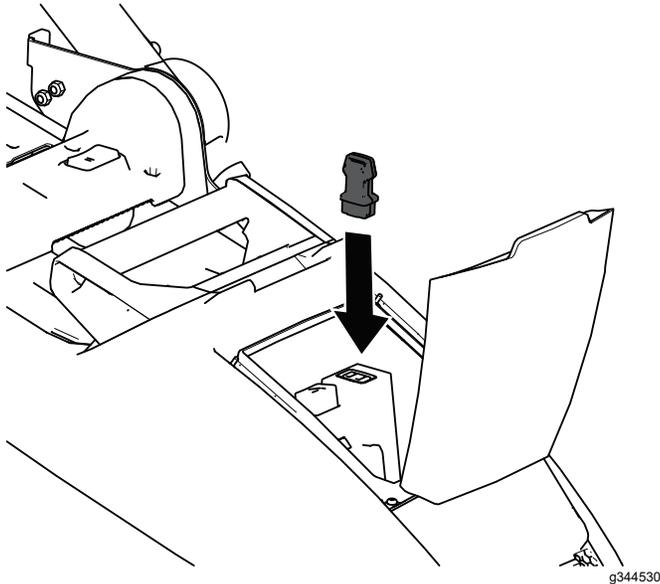

Figure 10
2. Install the safety key to the machine (Figure 10).
1. Release the blade-control bar (Figure 10).
2. Remove the safety key from the machine (Figure 10).